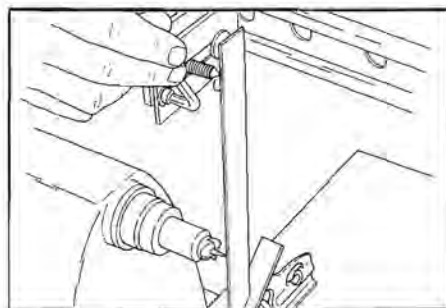

Figure 7. Check the back edge alignment of both tips.
**2. Check the alignment at the back edge of both center tips.** Use the square to check the alignment at the back edge of both tips. (See Figure 7.) If there is a gap between the tip of the template